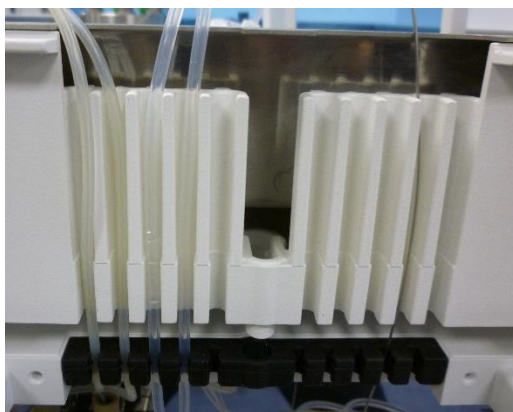

Figure 11. The tubing that is connected to the pump can be neatly organised behind the front panels of the pump and solvent tray.
- There are tubing guides behind the (pull off) front panel of both the eluent tray and the pump (Figure 11).